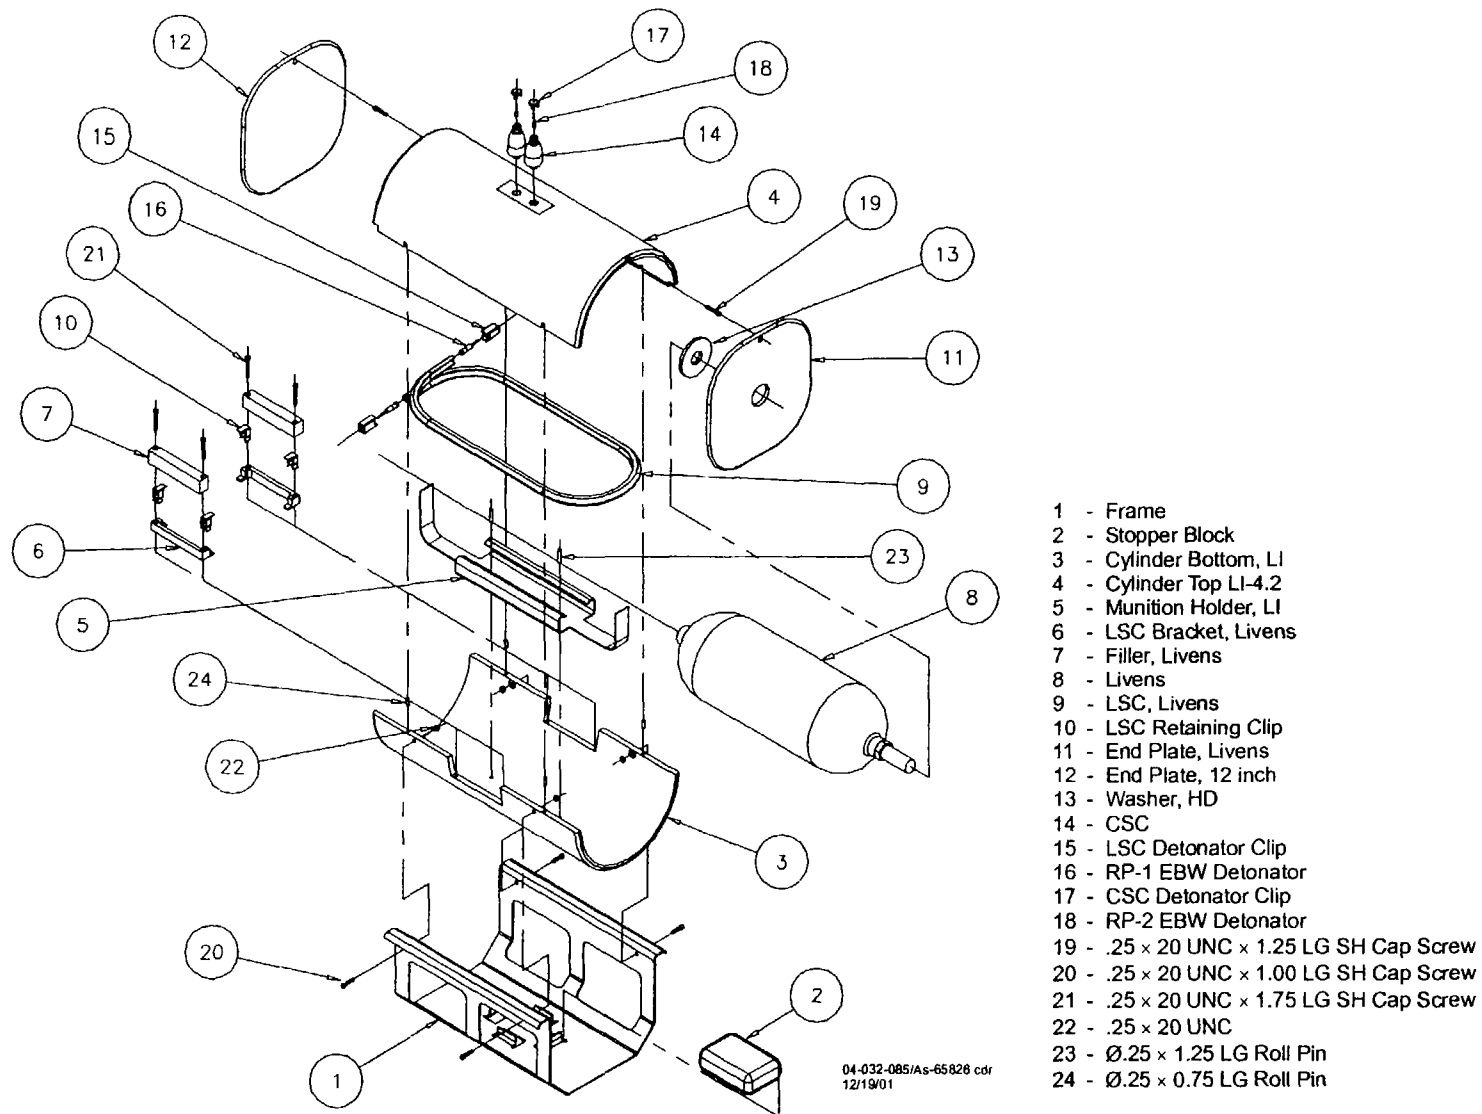

Figure E-2. Livens Projectile Old Style FSS
- 4.1 **POSITION** LSC on LSC bracket with overlapped detonator ends pointed outward next to longer end of two munition holder tabs (Figure E-2).